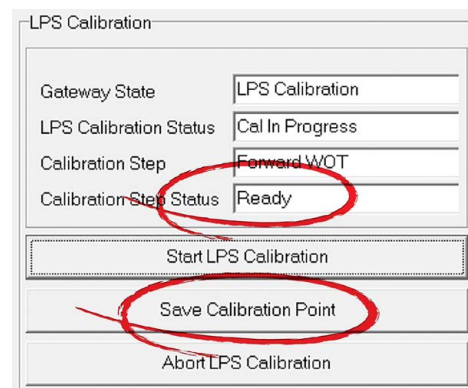

Figure B-23. Forward WOT Ready lever in position.
3. Move both control levers to the forward WOT position. The Calibration Step Status will change from 'Not Ready' to 'Ready.' (See figure B-23.) Click **Save Calibration Point**.